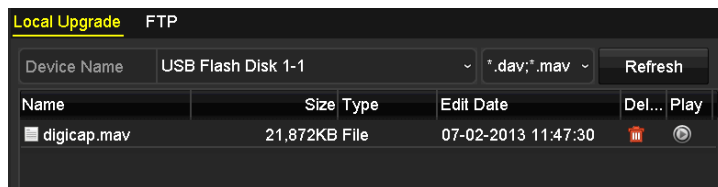

Figure 16-7 Local Upgrade Interface
Step 3 Click the **Local Upgrade** tab to enter the **Local Upgrade** interface, as shown in Figure 16-7.